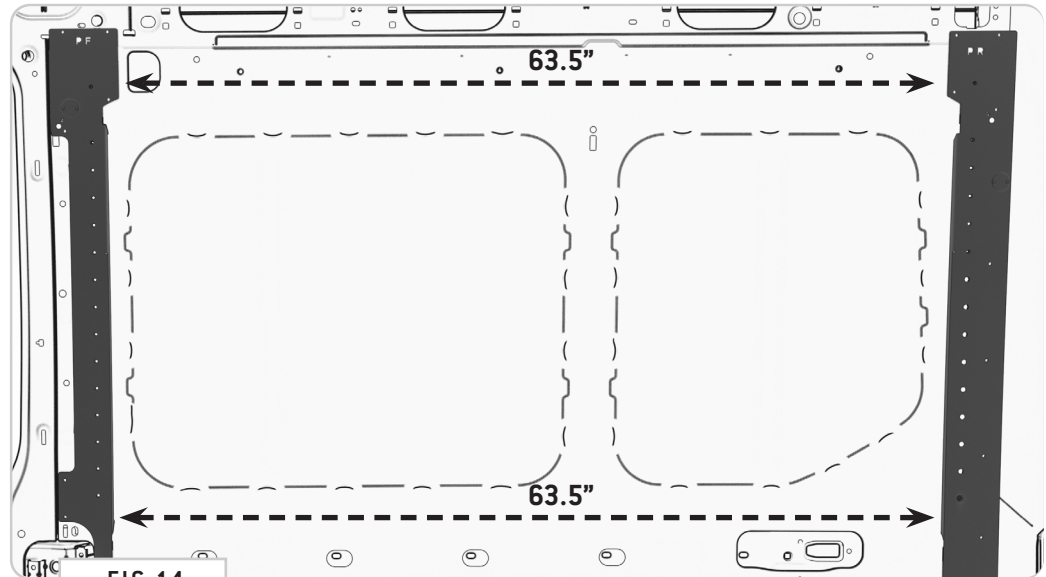

FIG 14
**5.1 Measure Bracket Spacing:** Once you have the clearance holes drilled, you'll need to resecure the **Bed Brackets** and confirm that the distance between rail mounting points are square at 63.5" thread insert to thread insert (**FIG 14**).